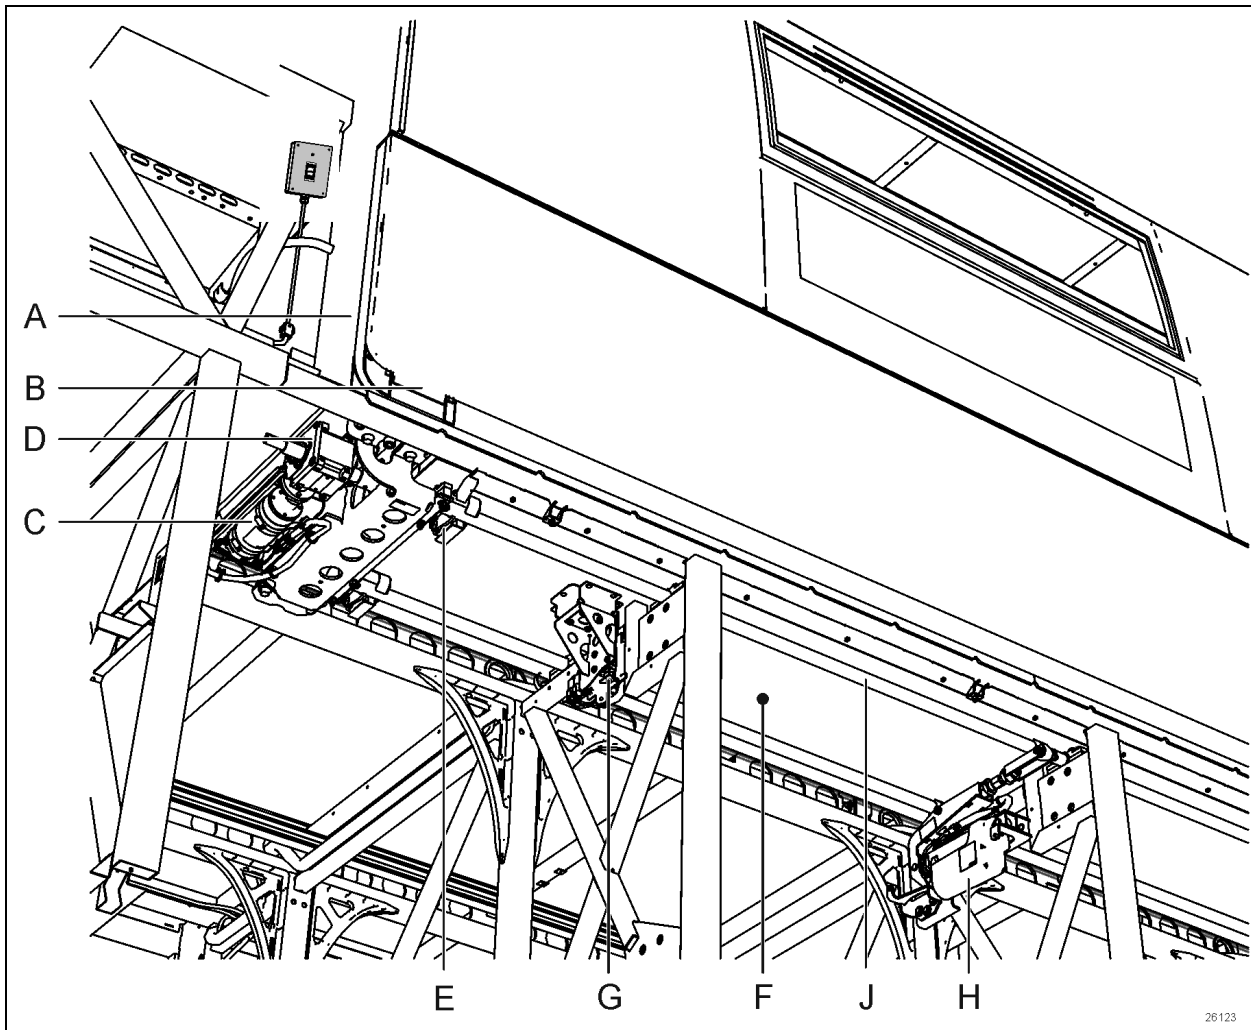
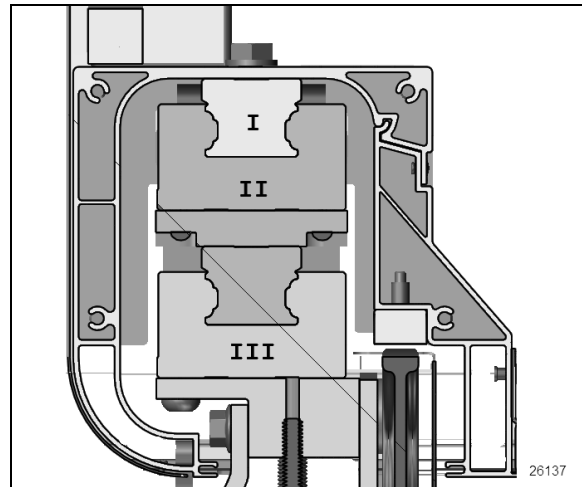

FIGURE 56: FLUSH FLOOR SLIDE-OUT MECHANISM OVERVIEW
FIGURE 61 LINEAR BEARINGS
Refer to images Figure 56 to Figure 61 above for the following descriptions.
The slide-out room is moved in and out on a pair of stacked linear bearings (Figure 61, Items I and III). Power comes from two synchronized electrical motor (C) oriented horizontally under each linear bearing assembly. The motor drives a right angle speed reducing gearbox (D).
Extension bearings and rail assemblies are stacked in pairs (Figure 61). The slide-out room structure is attached to the top rail (I). The top bearing is attached to the bottom rail (II). The bottom bearing is attached to the vehicle structure (III).